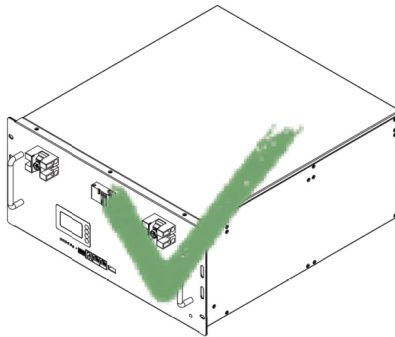

Figure 6-3 Right Way to Place Battery
- The VT-91600 battery is preferred to be installed in flat position as Fig 6-3 shown.